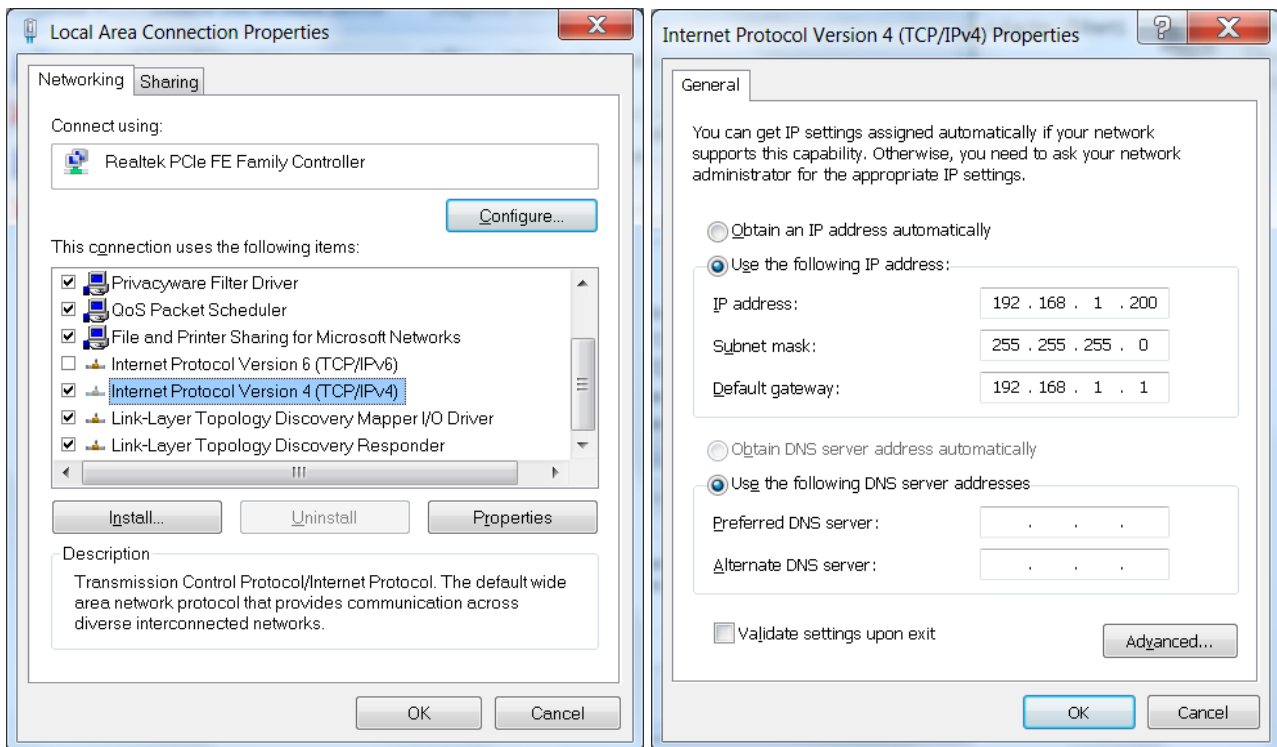

Figure 1.5 Setting up PC computer network parameters
2. In the list of available protocols (Figure 1.5 left) locate **"Internet Protocol Version 4 (TCP/IPv4)"**. Select it and then click **Properties**.
3. In dialog box (Figure 1.5 right) specify: